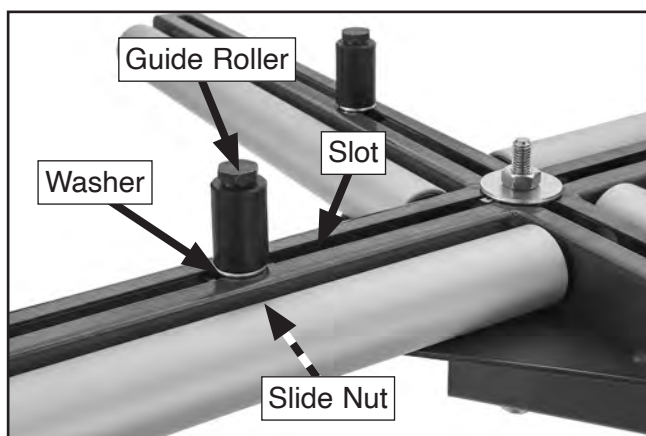

Figure 25. Guide roller installed in coil support slot.
9. Place slide nut under slot in coil support assembly, then thread guide roller with washers into nut from above and tighten, as shown in **Figure 25**. Repeat with remaining (4) guide roller assemblies in each of the remaining slots.